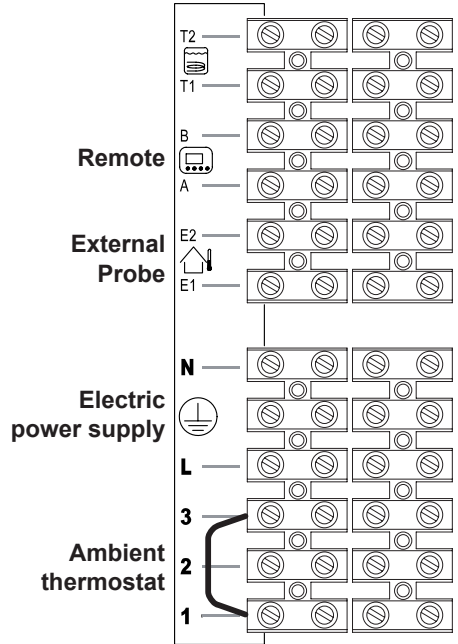
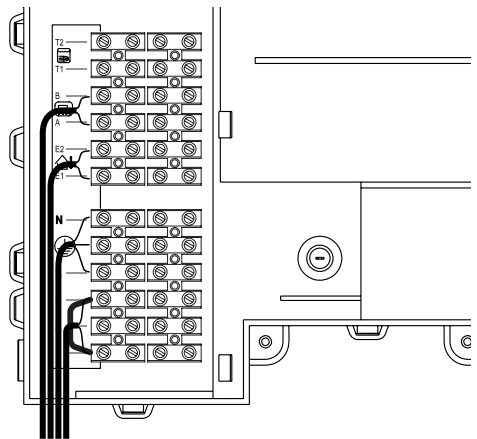
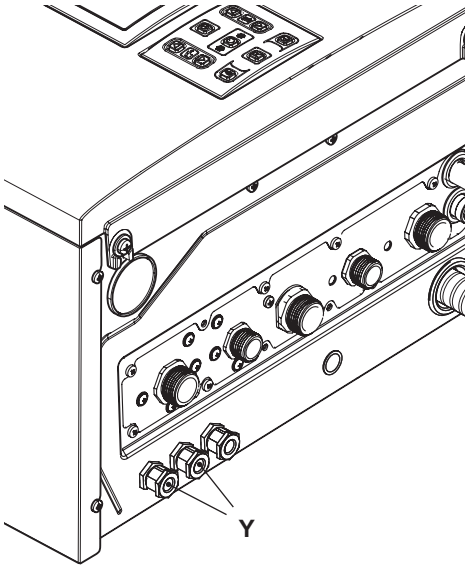

Fig. 6.15
Fig. 6.16
Fig. 6.17
- Connect the electric power supply cable coming from the fused spur isolation switch to the power supply terminal block of the boiler Fig. 6.15 keeping the same connections for the live (brown wire) and the neutral (blue wire). External 3A fuse or fused plug with same current rating is recommended.
The route of the boiler and ambient thermostat's electric power supply cable or wires must follow the route indicated in Fig. 6.16.
Allow the cables to exit the boiler by using the relevant cable clamps Y (Fig. 6.17).
Use the clamps indicated in Fig. 6.15 to connect the ambient thermostat.
Use the ambient thermostat's clamps indicated in Fig. 6.15 and Fig. 6.16. to connect the zone valve. Insert the electric cables of the zone valve's micro switch contacts in clamps "1 and 3" of the ambient thermostat's terminal block as in Fig. 6.16.
The route of the boiler and ambient thermostat's electric power supply cable or wires must follow the route indicated in Fig. 6.16. Allow the cables to exit the boiler by using the relevant cable clamps Y (Fig. 6.17).
The route of the external probe's connection wires must follow the route indicated in Fig. 6.16.
The route of the remote control cable must follow the route indicated in Fig. 6.16. Allow the cables to exit the boiler by using the relevant cable clamps Y (Fig. 6.17).